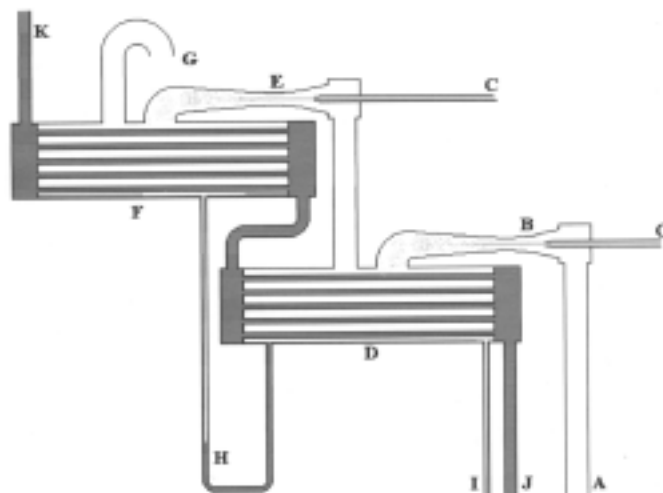

Figure 9-94. Dual jet ejectors for a condenser
When ejectors are combined, or staged, as for a condenser ejector (Figure 9-94) they can produce an almost pure vacuum. The steam to the jets (C) entrains the air drawn from the condenser at (A) accelerating it
For maximum power generation the condenser must operate under a vacuum so non-condensable gases and any air that might leak in must be removed from the condenser. That's typically done with a steam jet ejector but may also be accomplished with motor driven vacuum pumps. The steam jet ejector (Figure 9-94) is usually two or more stages to pull as much vacuum as possible. The steam used to eject the air is then condensed in a heat exchanger using condensate. The actual vacuum achievable is dependent on the temperature of the cooling water or air but 27 inches of mercury is a typical value to shoot for. At that pressure the steam will condense at 92°F.